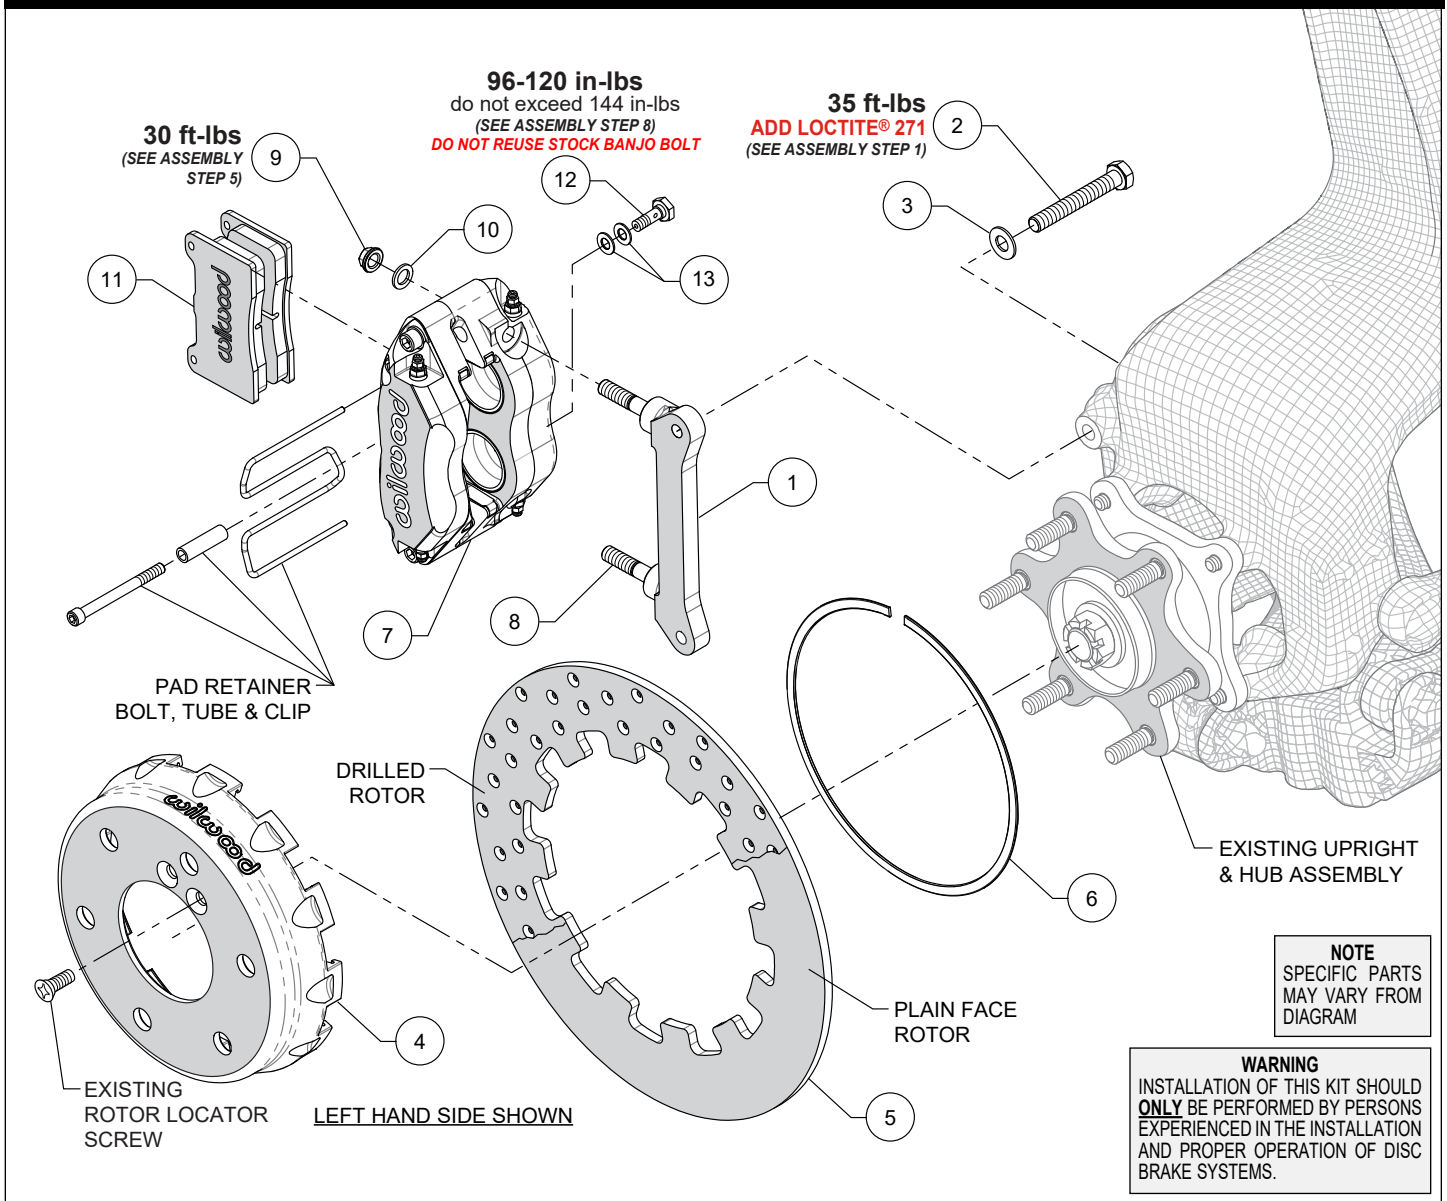

Figure 1. Typical Installation Configuration
**NOTE:** Numbers in parenthesis refer to the parts list and Figure 1 on the preceding pages.
**STEP 1** The caliper mount bracket (1) should initially be installed with clean, dry threads on the mounting bolts. Orient the bracket, as shown in Figure 1 and Photo 1, and install using bolts (2) and washers (3). Temporarily tighten the mounting bolts. **NOTE:** The bracket must fit squarely against the mount bosses on the upright. Inspect for interference from casting irregularities, machining ridges, burrs, etc. Remove the bracket mounting bolts (2) one at a time, apply red *Loctite*® 271 to the threads, and torque to value shown in Figure 1.
**STEP 2** Position the rotor (5) onto the hat (4), making sure the rotor lugs fit into the recesses of the hat, as shown in Photo 2.
**STEP 3** Secure rotor to the hat using the snap ring (6) by installing the ring into the groove in the hat, as shown in Photos 3 and 4. **Carefully inspect snap ring to ensure complete engagement in the groove.**
**STEP 4** Slide the hat/rotor (4/5) assembly onto the axle hub. **NOTE:** The hat must fit flush against the axle hub flange or excessive rotor run out may result. Install the existing rotor locator screw to keep the hat/rotor assembly in place while continuing with the installation, Figure 1 and Photo 5.
**STEP 5** Mount the caliper (7) onto the caliper bracket studs (8) using lock nuts (9) and washers (10), Figure 1. Torque lock nuts (9) to value shown in Figure 1.
**STEP 6** Remove the pad retainer bolt, tube, and clip from the caliper (7), Figure 1. Insert the brake pads (11) into the caliper with the friction material facing the rotor, as shown in Photo 6. Secure the pads in place using the pad clip retainer as well as the pad retainer tube and bolt, Photo 7. The bolt should be snug without play in the tube. Be cautious not to over tighten.
**STEP 8** Attach brake line to caliper. Connect OEM brake line to caliper using banjo bolt (12) and crush washers (13), Photo 8. Do not use lubricant or thread sealant on banjo bolt (12). Torque to minimum value shown in Figure 1. Check for leakage, increasing torque only to stop leakage without exceeding maximum specification. Replace crush washers and banjo bolt whenever reassembly is required. **Ensure hoses are routed to prevent contact with moving suspension, brake or wheel components.**